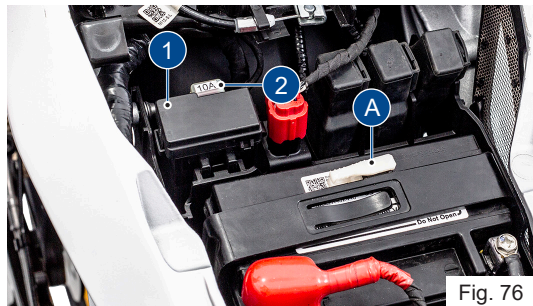

Fig. 76
- Press the lock and open the fuse box cover (1) (ref. Fig. 76).
- An additional 10A HECU protection fuse (2) is provided out side the fuse box as shown in the figure (ref. Fig. 76). Ensure to check this fuse incase if any HECU related electrical issue is found in the system.